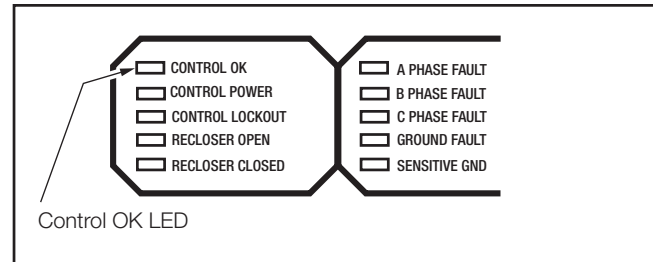

Figure 34. Control OK LED
4. Verify the Control OK LED is illuminated on the control operator panel (**Figure 34**). This indicates the presence of AC power.